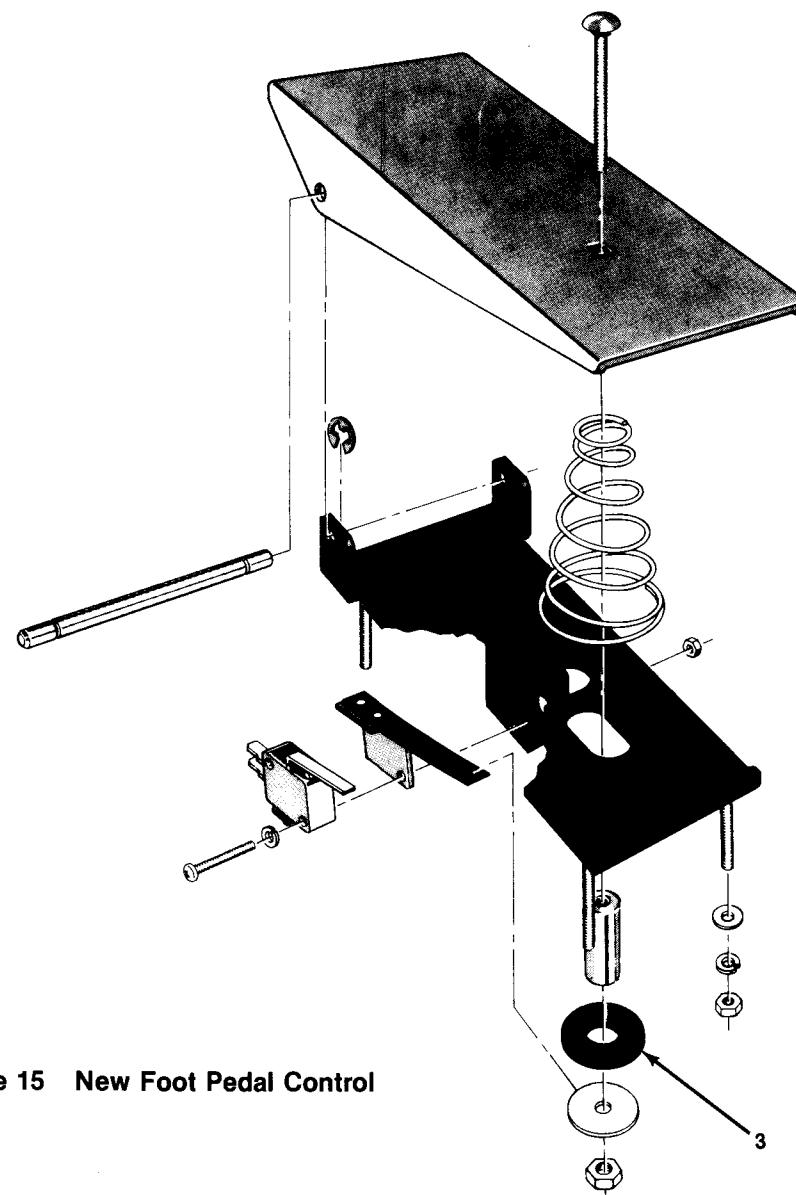

Figure 15 New Foot Pedal Control
Figure 15 shows the newest gas pedal assembly (introduced in early 1980). Notice that the microswitch activator has been changed to a spring, to prevent flexing sideways. This keeps the activator from slipping off the washer (3).
| Figure 15 | Schematic of Zenith Model D12 12-Inch Monochrome Monitor | 3-24 |